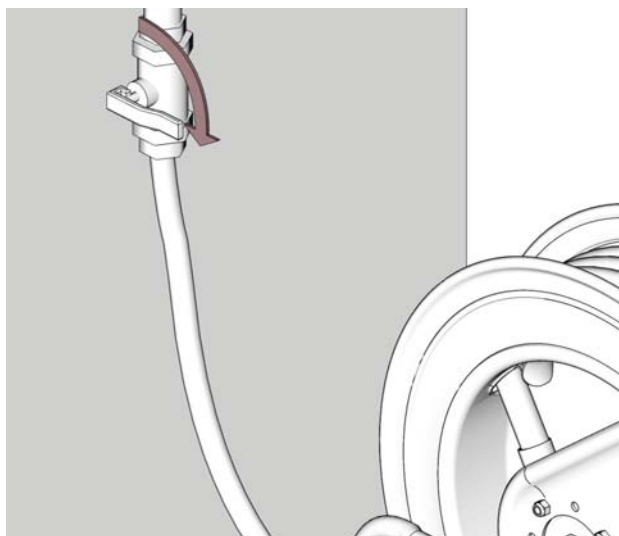

FIG. 1
1. Close the supply pump's bleed-type master air valve (required for pneumatic systems) (FIG. 1).